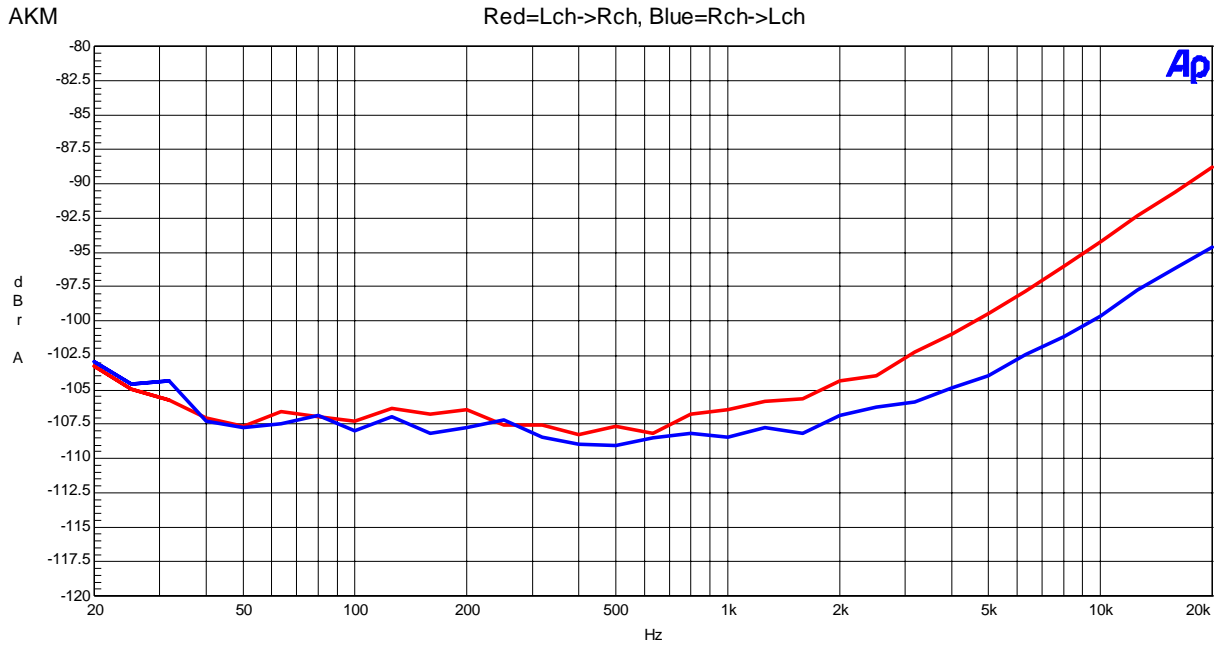

Figure 31 Cross-talk (Input level=0dBFS)
- Figure 31 Cross-talk (Input level=0dBFS)